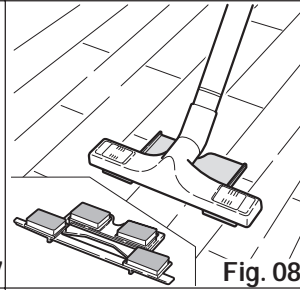

Fig. 08
**CLEANING HEAD WITH WOOL FELT FOR FLOOR BOARDS** (fig. 08) - Use this accessory with the multipurpose nozzle, to vacuum all flat and delicate surfaces such as floor boards.